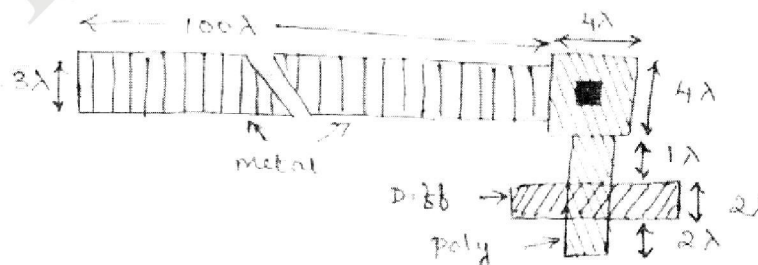

Fig.Q4(b)
- b. Calculate the capacitance of the structure given below in Fig.Q4(b). (10 Marks)